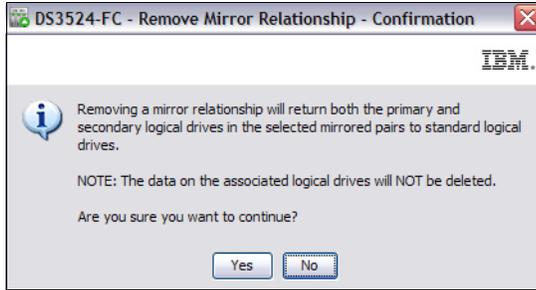

Figure 5-53 Remove Mirror Relationship - Confirmation
2. Select the mirrored logical drive pairs for which you want to remove the mirror relationship. To select multiple mirrored pairs, use the Ctrl+click or Shift+click keyboard options. To select all of the mirrored pairs, click **Select All**. Click **Remove**. The Remove Mirror Relationship - Confirmation dialog box opens, as shown in Figure 5-53.